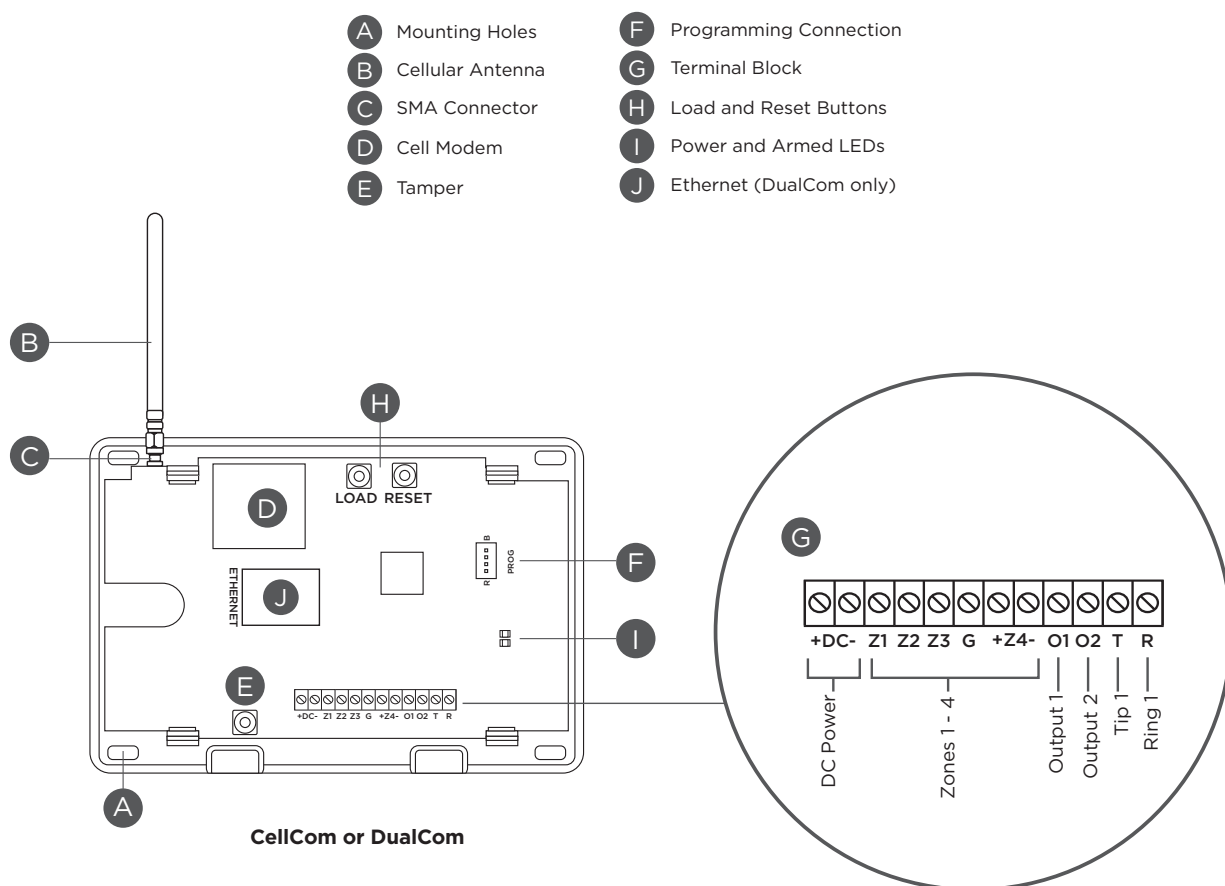

Figure 1: CellCom and DualCom Components
The communicator should be mounted to a wall using the included #6 screws in the mounting holes. Refer to Figure 1 for mounting hole locations.
1. Attach the antenna to the SMA connector. Refer to Figure 1.